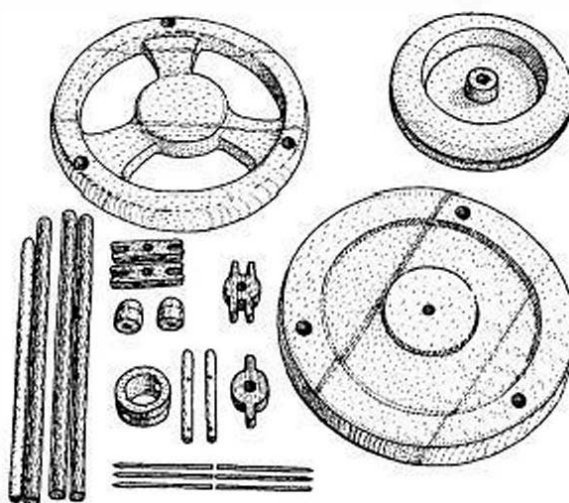

FIGURE 14-17
- 1** When you have completed all the component parts (Fig 14-17)—the base and top disks, flywheel, three poles, two linkup arms, two flyweights, two collars, two $\frac{1}{4}$ " rods that make up the upper arms and pull cord ring—set them on the work surface and check for potential problems. Then comes the fun stage of the first fitting.